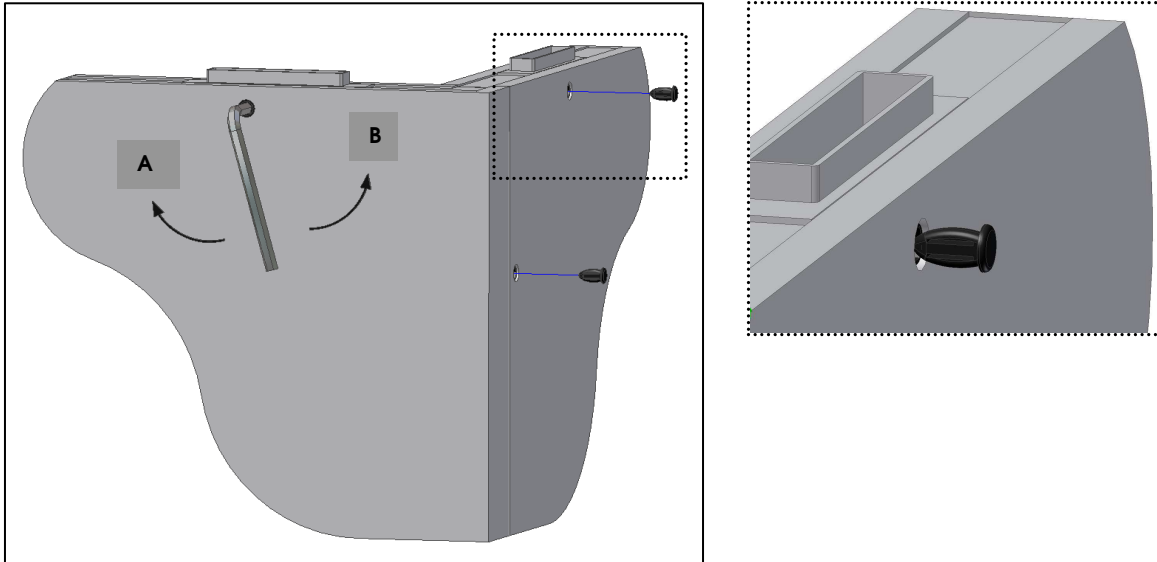

Fig. 10
- Turn the screwdriver like the hands of a clock till it stops. (Fig.10 – Position **A**).
- Turn the screwdriver on the other sense till it fastens. (Fig.10 – Position **B**).
- After fastening, Insert the **covers** in the holes (Fig. 10).